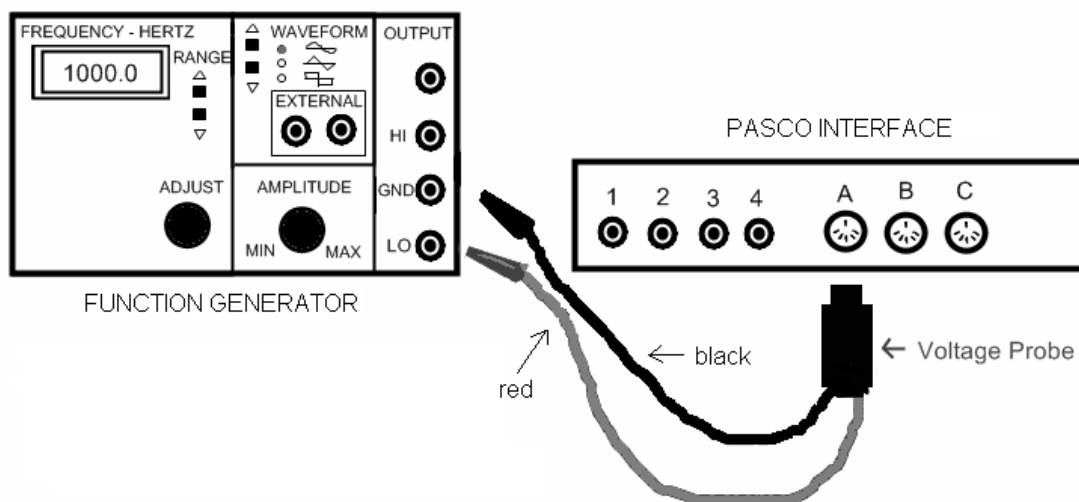

Figure 8. Connect cables from the PASCO function generator to the interface.
1. Set up the experiment as shown in the diagram in Fig.8. The function generator is turned on by a switch on the rear of the unit. Connect the voltage probe into channel A of the PASCO 750 interface. Connect the red banana plug of the other end to the LO  $\Omega$  output of the function generator. Connect the black banana plug to the GND output of the function generator.